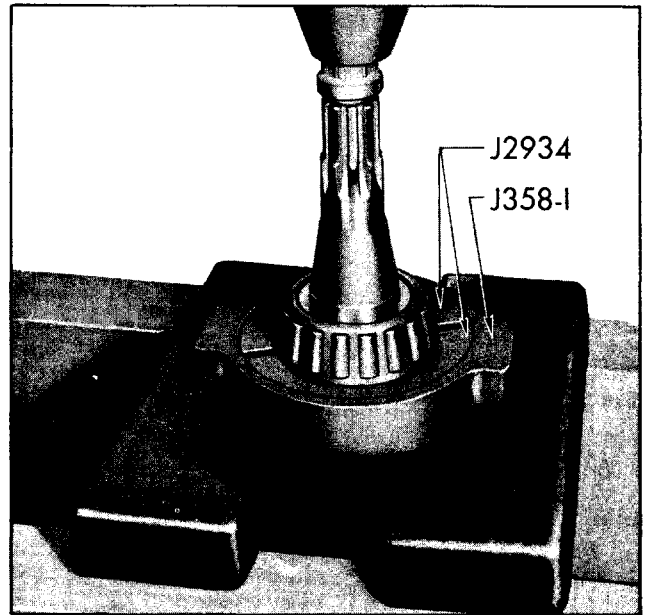

Fig. 4-33 Removing Bearing With Plates J-2934 and Holder J-358-1
13. If pinion rear bearing is to be replaced, slip the two sections of Remover Plates J-2934 between bearing and pinion and place in Holder J-358-1 (Fig. 4-33). Press pinion from bearing. NOTE: Flat sides of remover plates should be placed against bearing; concave sides against Holder J-358-1.